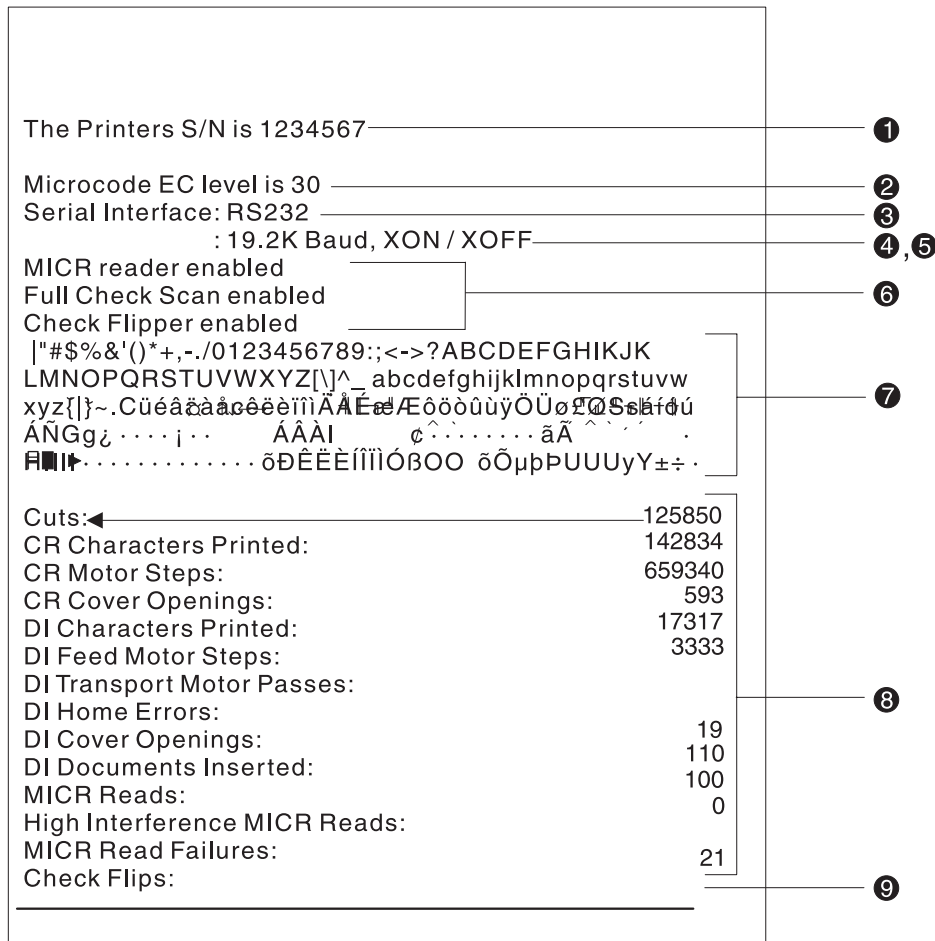

Figure 36. Offline printer test pattern from the customer receipt station (Models T11, T12, T13, T14, T18, T19, TG3, TG4, TG8, TG9)
3. See Figure 36 on page 64 and verify that your printer has printed correct information for your model and configuration:
If any characters that appear in Figure 36 on page 64 are missing from the test pattern that you print, or if the solid line is missing, go to “Problem determination” on page 67.
4. See Figure 36 on page 64 and verify that your printer has printed correct information for your model and configuration: